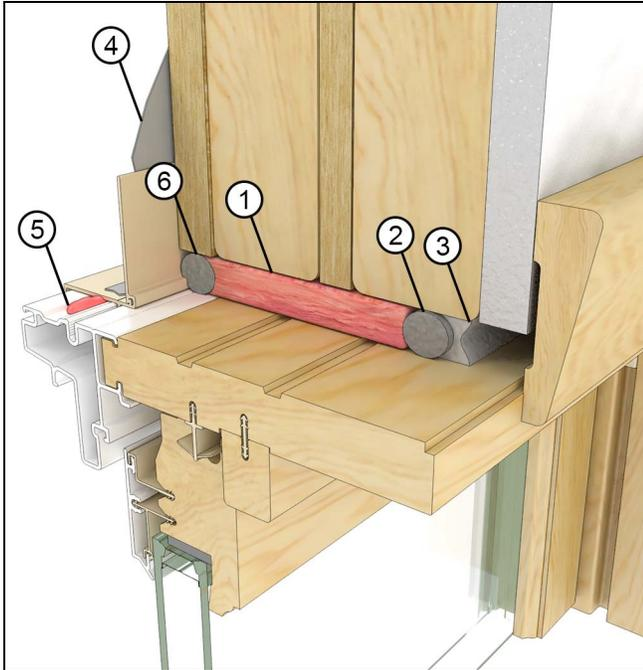

Figure 25
**1. Loose Fill Fiberglass Insulation.** Insulate the RO cavity with loose fill fiberglass insulation. Install a backer rod and sealant at the interior plane of the RO to create a continuous air seal. See Figure 25.